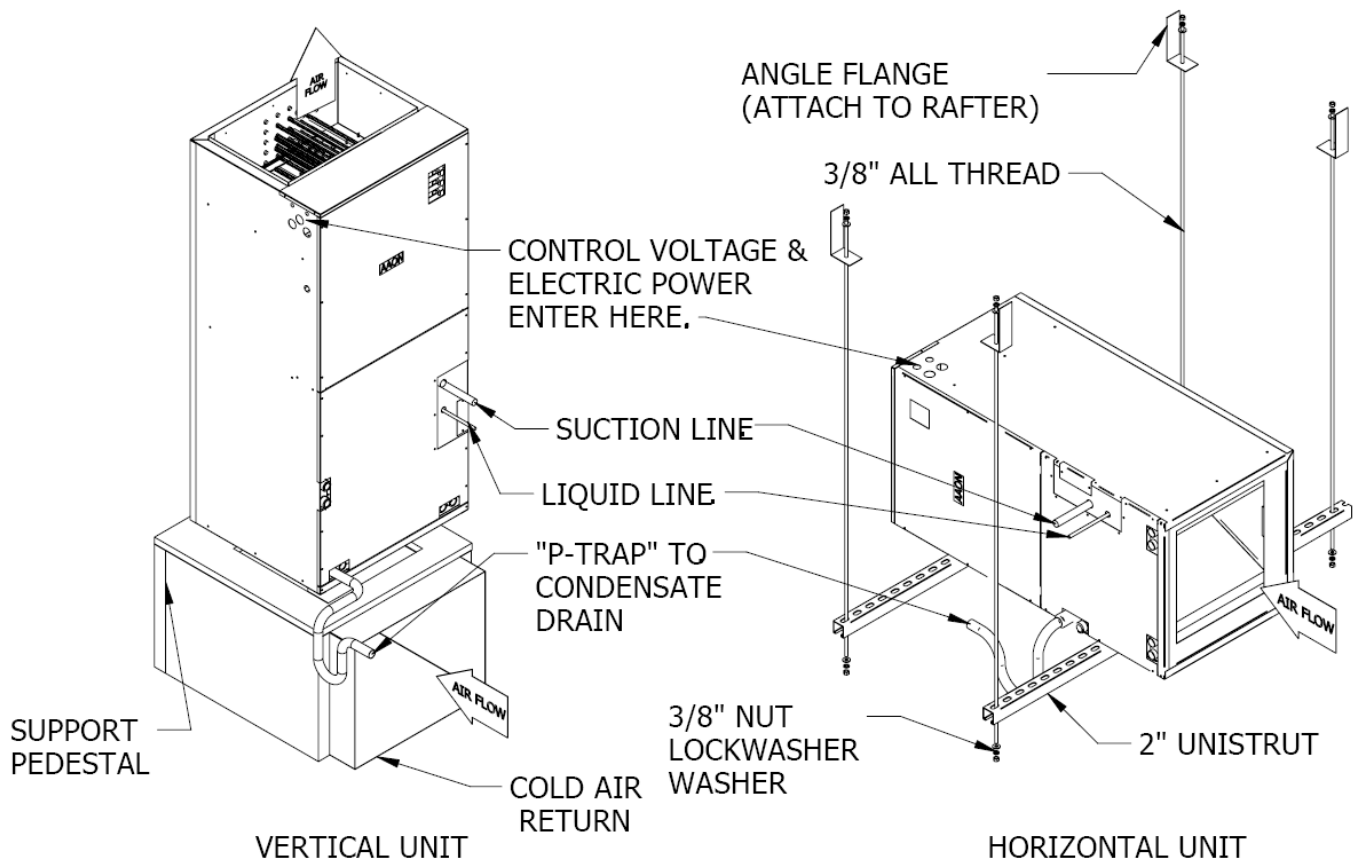

FIGURE 1. Typical Vertical and Horizontal Unit Installation Methods.
- The F1 series multiposition air handler can be easily suspended for suspended horizontal installations. The air handler should be lifted into position, supporting the entire unit from the bottom throughout the lift. Suspend the air handler as shown in the following Figure 1. An auxiliary drain pan that covers the entire unit would be required for above ceiling installations.